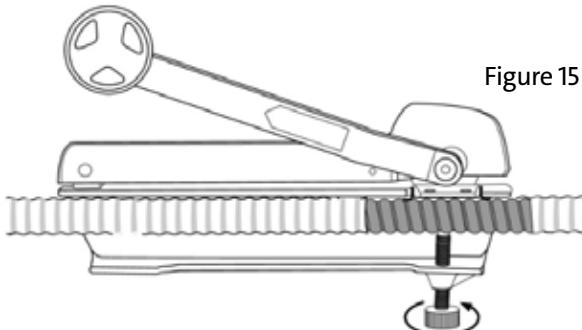

Figure 15
- Step 6:** Place the exposed section of armor in the cable guide of the armor splitting tool (Figure 15). Tighten the tool's thumb screw a to secure the cable in the tool.